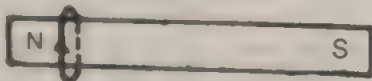

Fig. 7.30
27. A circular coil of wire, free to move, rests near one end of a bar magnet as shown in Fig. 7.30. What will happen if a current is made to flow in the coil in the direction shown ? Give reasons.